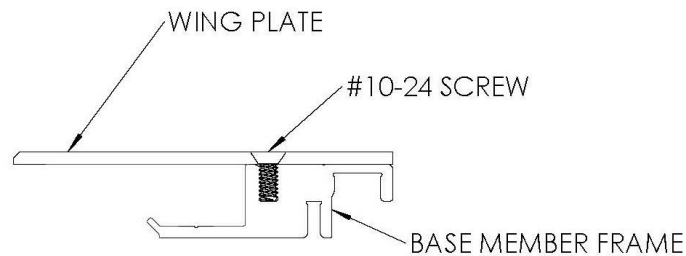

FIGURE 1
1. Remove the factory installed #10-24 screw that attaches the wing plate to the base member frame and retain for reinstallation later. **See Figure 1**